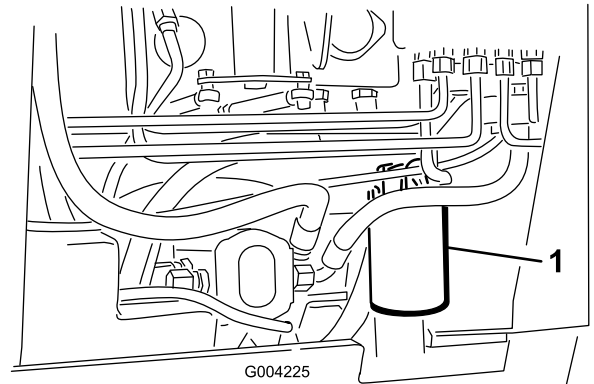

Figure 61
4. Place a drain pan under the filter (Figure 61).
5. Remove the old filter (Figure 61) and wipe the surface of the filter adapter gasket clean.
7. Install the replacement hydraulic filter onto the filter adapter (Figure 61). Tighten it clockwise until the rubber gasket contacts the filter adapter, then tighten the filter an additional 3/4 turn.